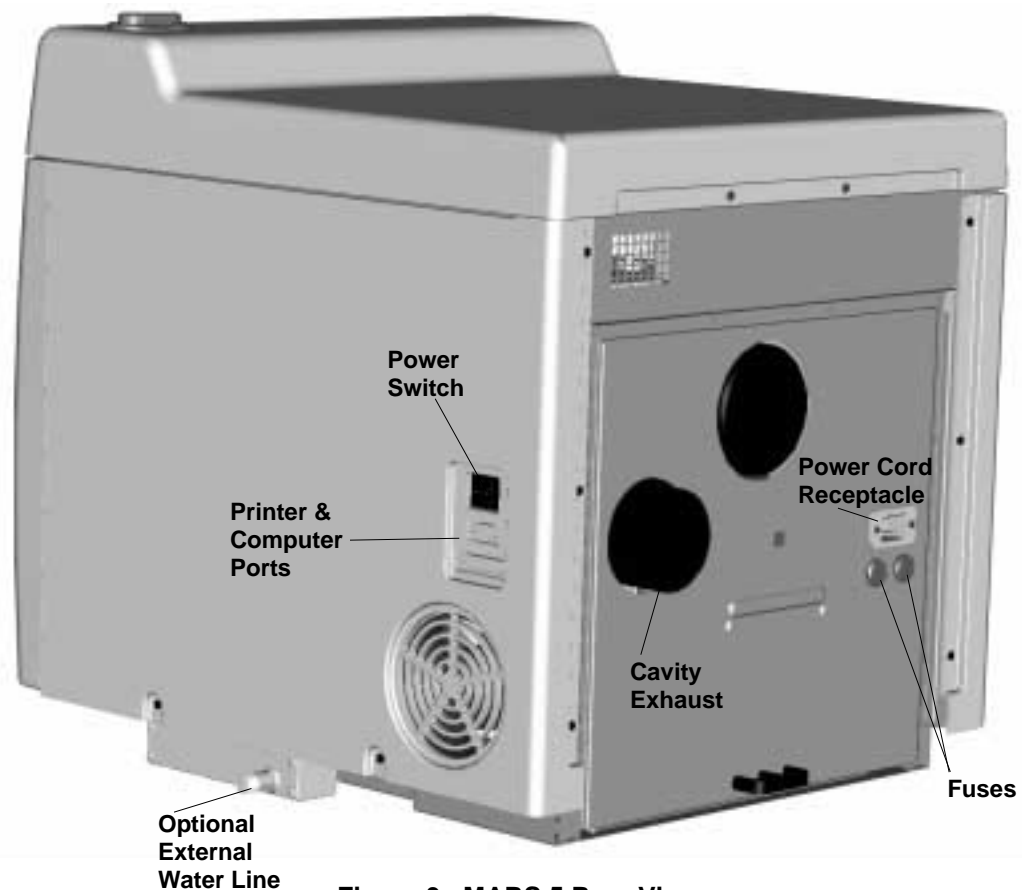

Figure 3. MARS 5 Rear View
- **Printer and Computer Ports** - allow communication with external devices for display and printout of data. Refer to "System Setup." (figure 3, page 8)